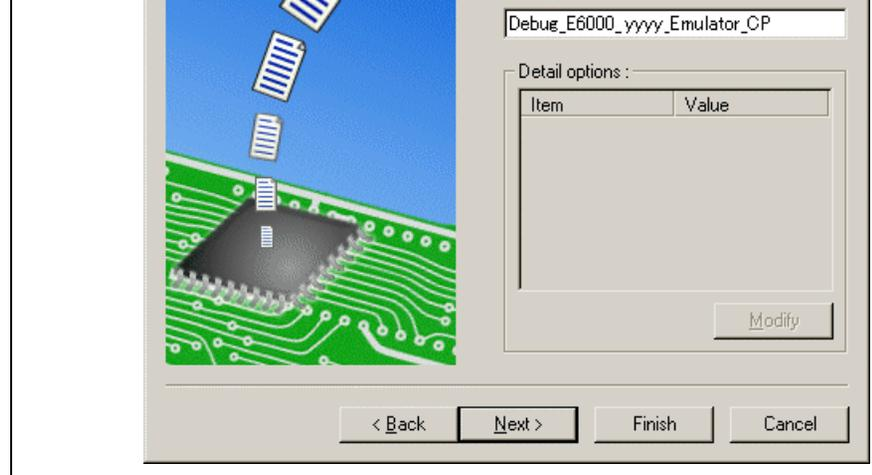
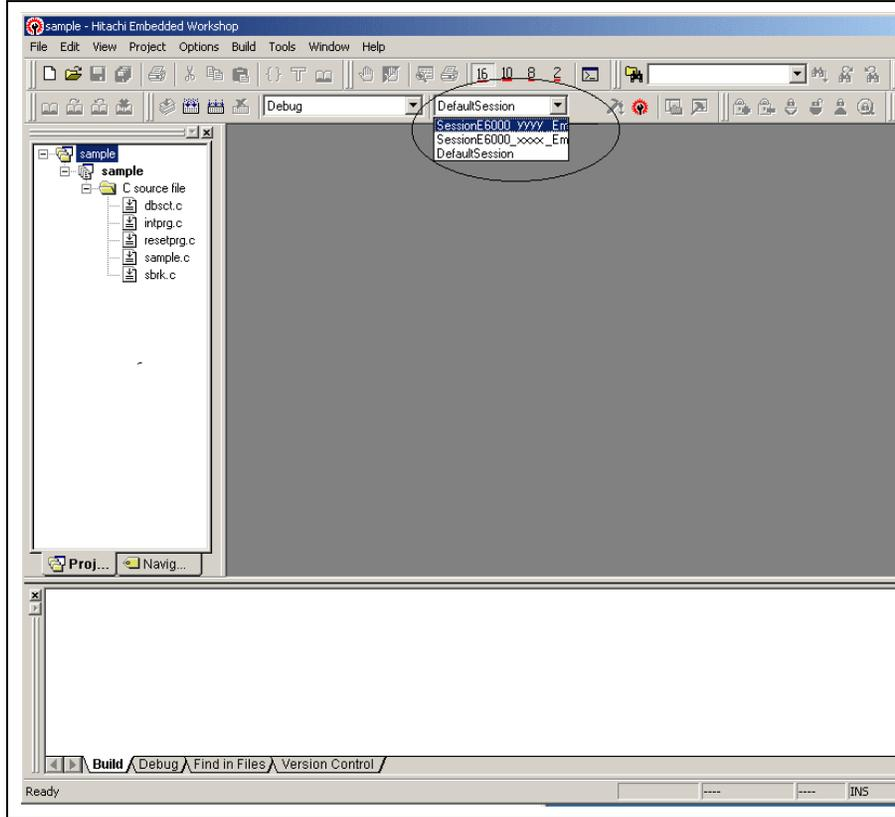

Figure 4.10 [New Project – Step 8] Dialog Box
Figure 4.20 Selecting the Session File
In the list box that is circled in figure 4.20, select the session name including the character string that has been set in the [Target name] text box in figure 4.10, [New Project – Step 8] dialog box. The setting for using the emulator has been registered in this session file.
1. Select [Debug settings] from the [Options] menu to open the [Debug Settings] dialog box (see figure 4.20).